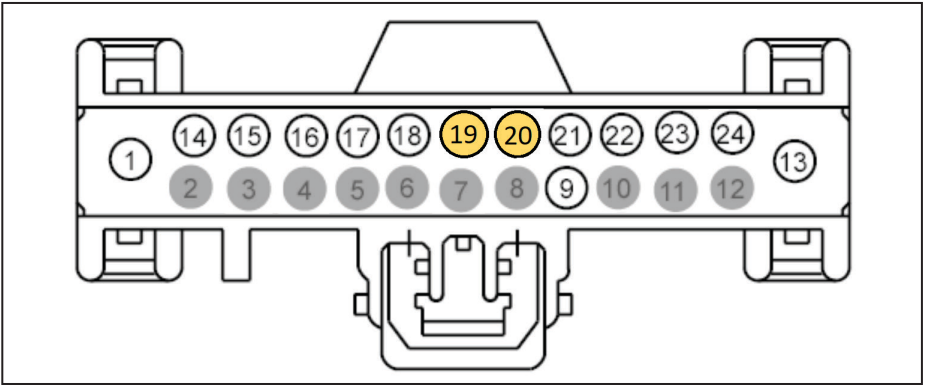

Figure 57 — OBD II connector
- Splice the light blue wire from the throttle control to the wire at pin 20 (blue wire at the time of writing) of the OBD II port (Figure 57).
- Splice the grey wire from the throttle control to the wire at pin 19 (white wire at the time of writing) of the OBD II port (Figure 57).